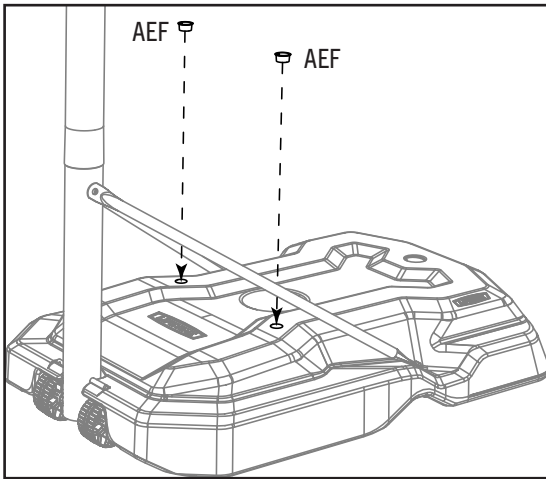

Fig. 1
1. Insert a **plug (AEF)** into each of the two holes in the base (Fig. 1).